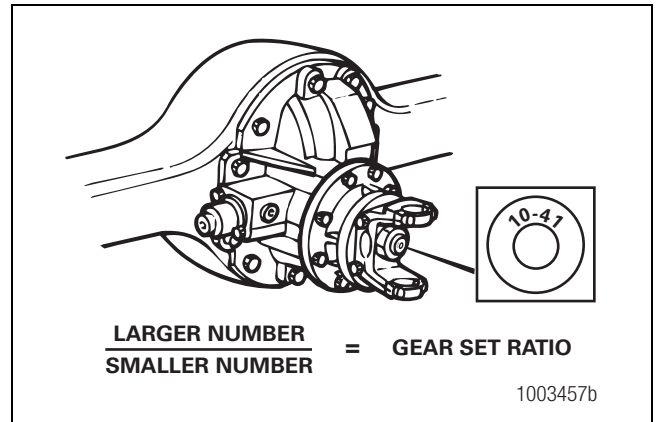

Figure 4.21
2. Identify and record the gear set teeth numbers stamped on the end of the rear axle drive pinion. Figure 4.21.
3. Calculate the hypoid gear set ratio by dividing the larger number by the smaller number. Figure 4.21.